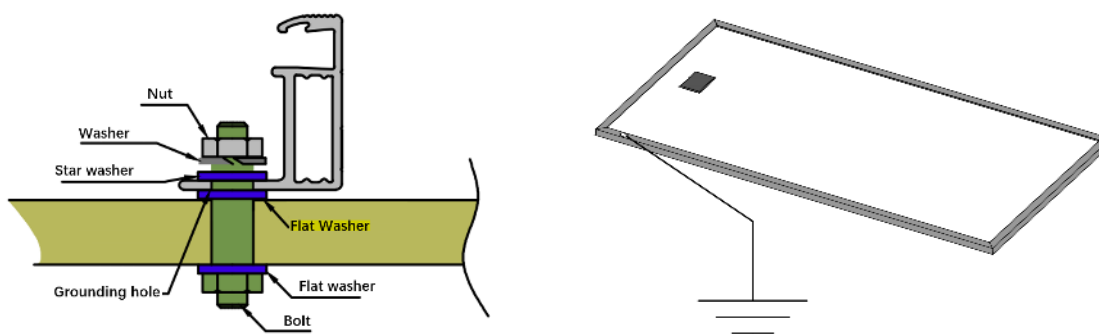

Fig. 12 Ground connection of PV modules
- e) All module frames and mounting racks must be properly grounded in accordance with local and national electrical codes. Attach the equipment grounding conductor to the module frame using the hole and hardware provided. Note that a stainless-steel star washer is used between the grounding wire and module frame (see Figure 12 below). This washer is used to avoid corrosion due to dissimilar metals. Tighten the screw securely, and the tightening torque shall be big enough so that the grounding wire cannot be pulled off by hands. Follow the installer's guidance for the grounding installation.